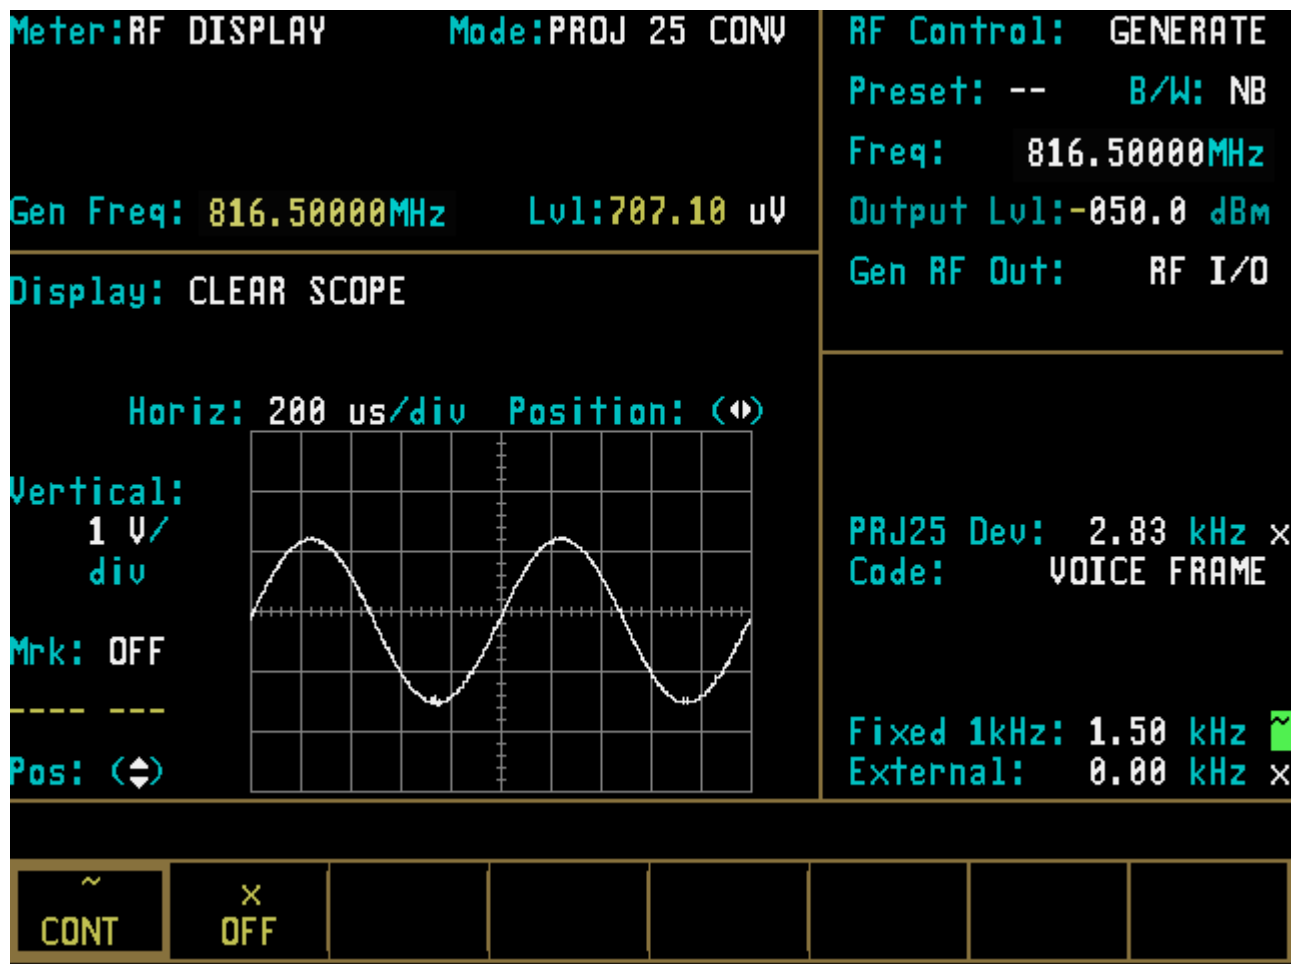

Figure 22-4. PROJ 25 CONV CLEAR SCOPE Display of Output Modulation
7. Place cursor in the "Display:" field and press **CLEAR SCOPE** screen should appear similar to Figure 22-4.